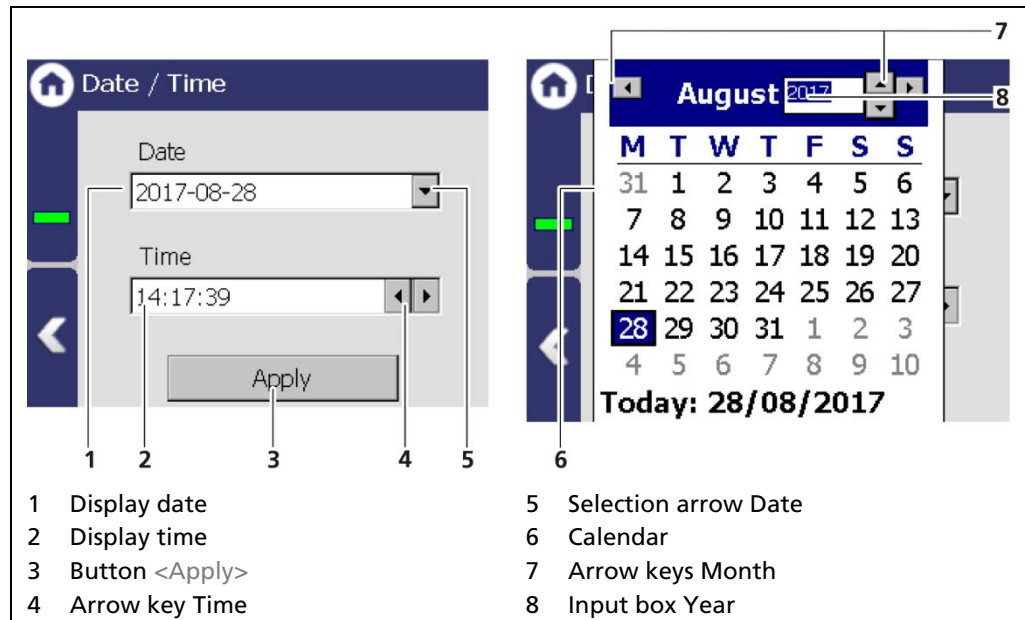

Fig. 39 Date / Time, calendar
1. Click <Edit> (Fig. 39, item 2) to open the input field.
Activating the selection box (Fig. 39 item 1) automatically resets the access level Standard to "Basic" when the system changes to the standard display after the timeout (Chap. 7.3.1).
1. Click on the arrow key (Fig. 39, item 5) in order to set the date.
- ▶ The calendar is opened (Fig. 39, item 6).
2. Click on the year number (Fig. 39, item 8) in order to enter the year.
3. Set the month (Fig. 39, item 7) by clicking on the arrow keys.
5. Change the time by clicking on the arrow keys (Fig. 39, item 4).
6. Click on <Apply> (Fig. 39, item 3), to accept the date and time settings.